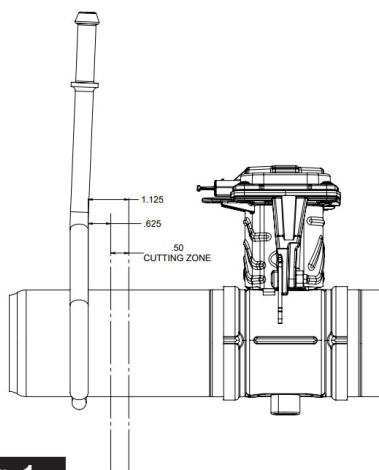

Fig. 1
2. Mark the exhaust at the designated cut points shown on. **(Fig. 1 & 2)** Double-check measurements, then use a suitable cutting tool to make a clean, even cut. Then remove burrs and sharp edges using a file.